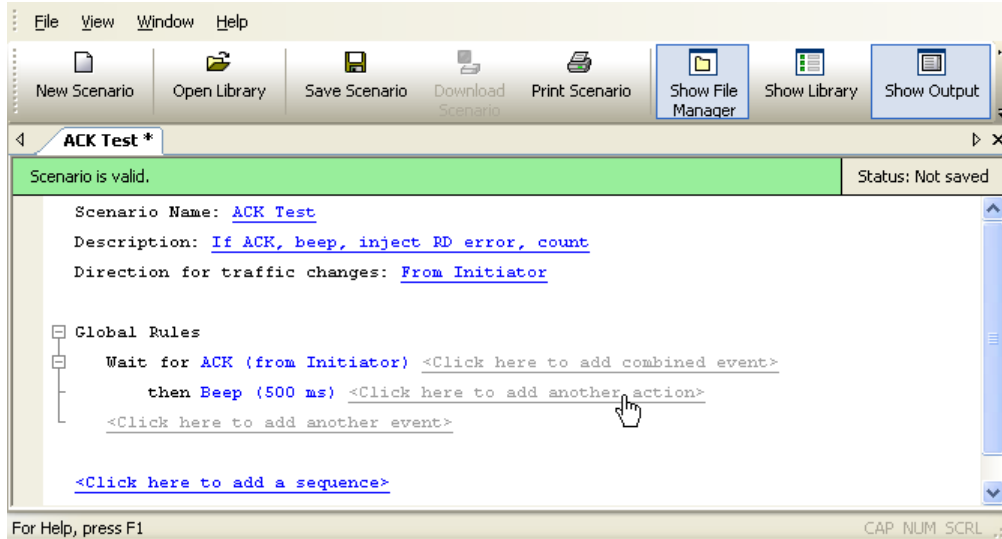

Figure 5.26 Example 5: Entering the Second Action
Step 3 Click on the **add another action** prompt to add a second action (Figure 5.26).